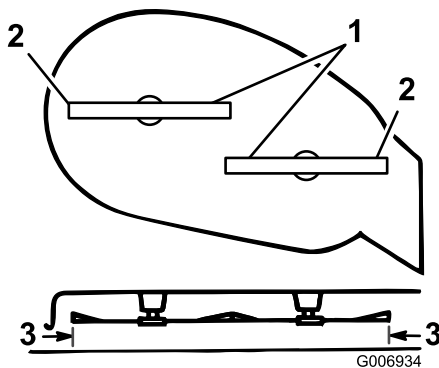

Figure 36
5. Carefully rotate the blades side to side (Figure 36).
6. Measure between the outside cutting edges and the flat surface (Figure 36). If both measurements are not within 3/16 inch (5 mm), adjust them; continue this procedure.